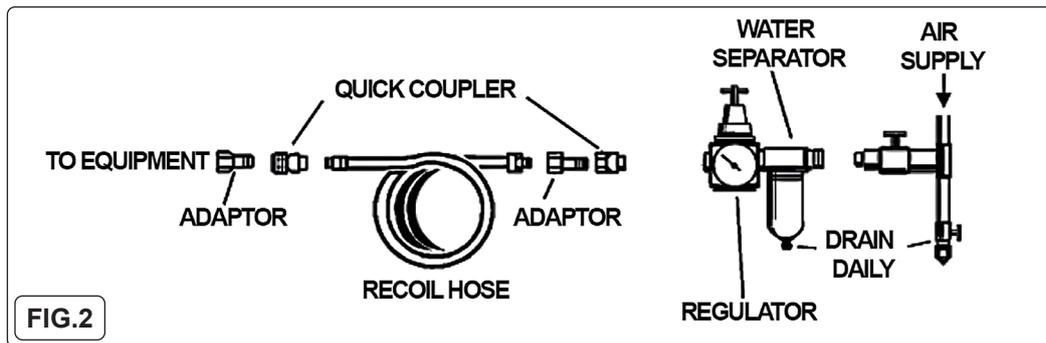

FIG.2
- 4.1.4. Recommended hook-up procedure is shown in fig 2.